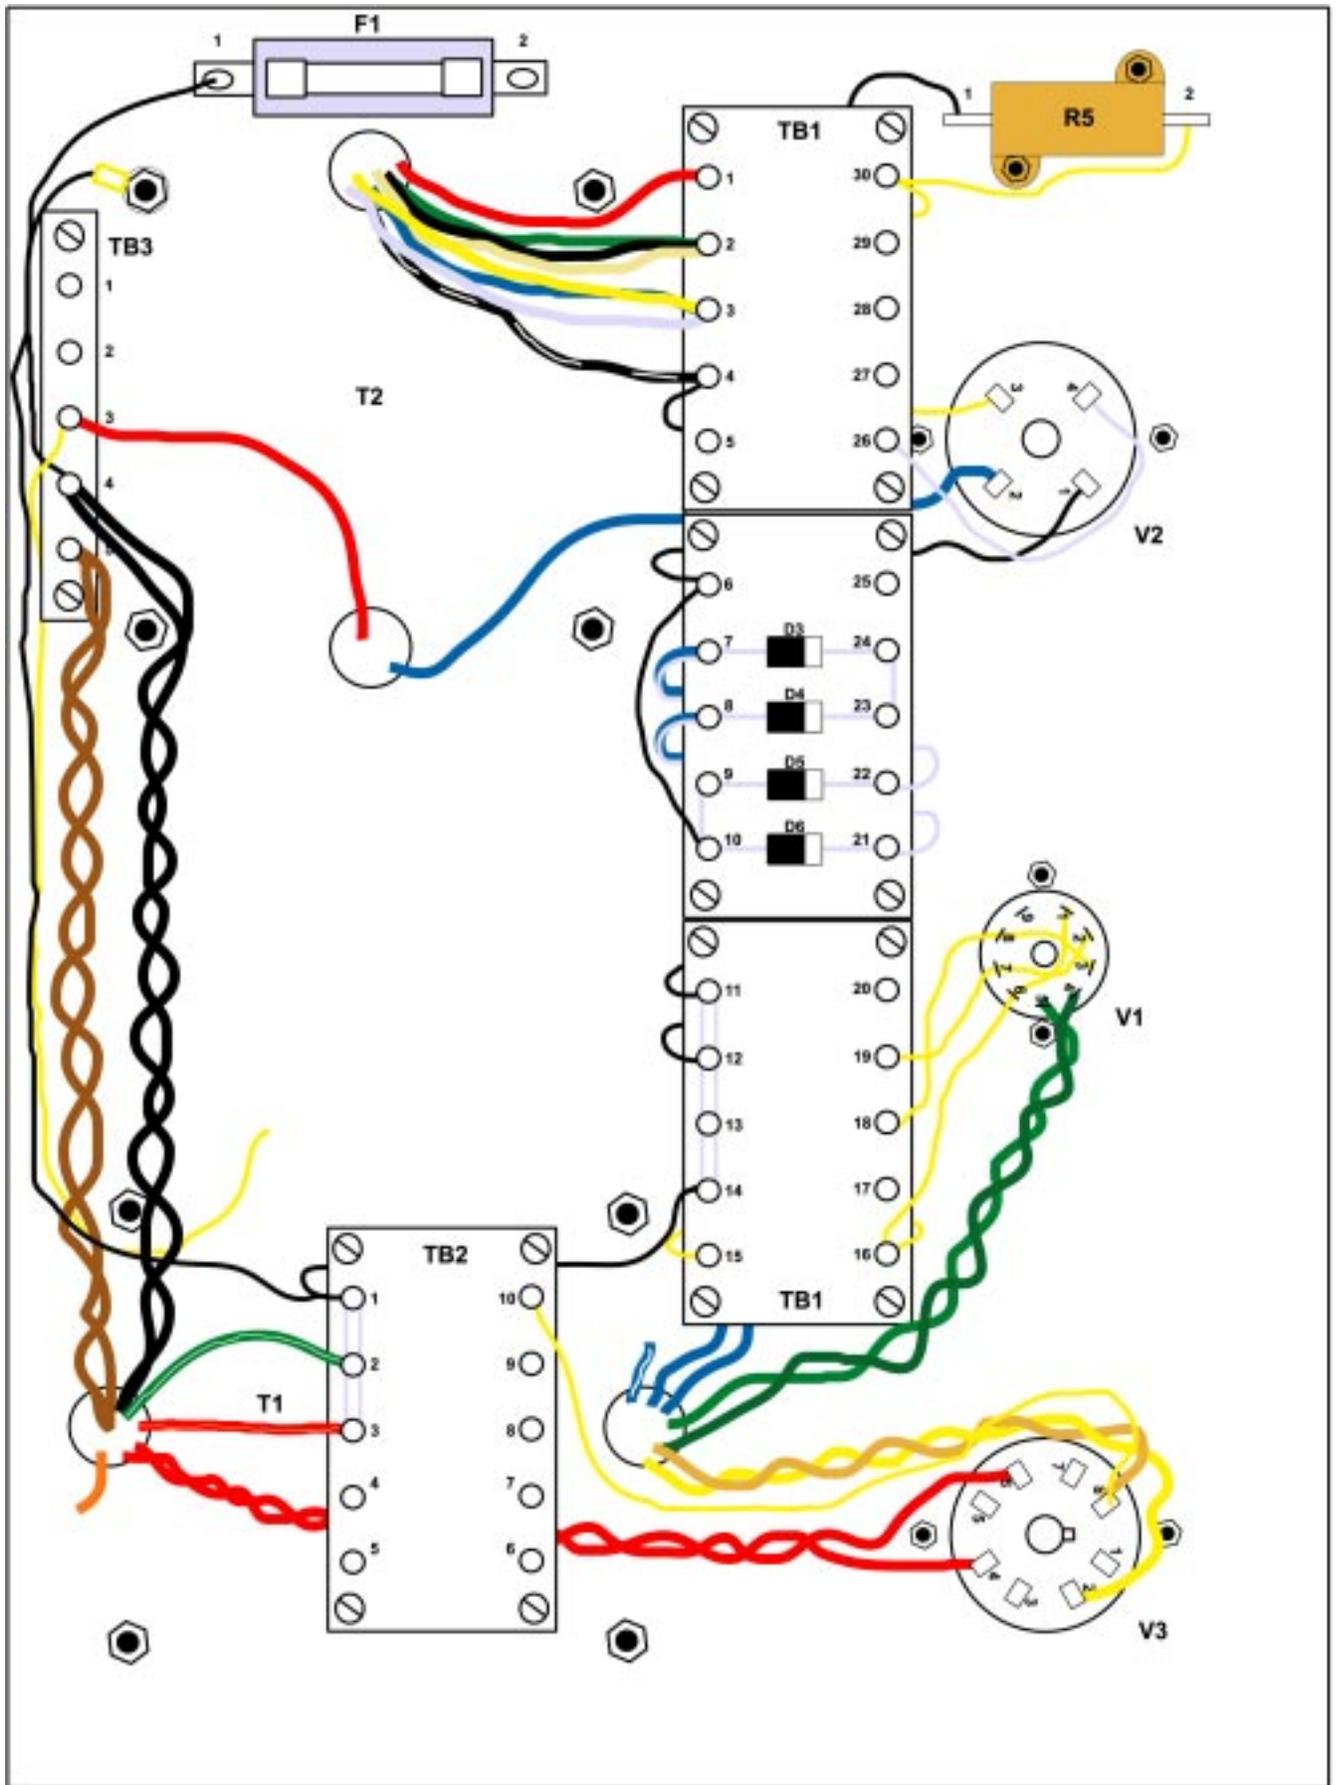

Figure 4
6) Locate the bag marked "D3,D4,D5,D6" and mount the diodes to TB1 as shown in figure 4. Note the polarity of the diodes when installing them. Install one diode between TB1-7 and TB1-24 leaving one lead long enough to wrap around and connect to TB1-23. Install the second diode between TB1-8 and TB1-23. Install the third diode between TB1-9 and TB1-22 leaving one lead long enough to wrap around and connect to TB1-10. Install the fourth diode between TB1-10 and TB1-21.
Cut a piece of yellow wire to length and solder between TB2-10 and V3-8 as shown in figure 4.
Cut a piece of the black hookup wire to length and solder one end to TB2-1 and the other end to TB1-14. Route the wire under TB2 as shown in figure 4.
Locate the bag marked "H/W1" and remove one ring terminal, a star washer and a brass nut. Cut a piece of the black wire to a length of approximately 10 inches. Solder one end of this wire to TB2-1 as shown in figure 4. Trim the wire to length and solder the ring terminal to the other end of this wire. You will now attach this ring to the transformer bolt as shown in figure 4. First remove the nut that secures the transformer mounting bolt. Install the star washer onto the bolt and then re-install the nut and tighten securely so that the star washer digs into the bottom of the aluminum plate. Now place the ring terminal onto the bolt and secure with the brass nut. Just finger tighten this nut for the time being. The ring terminal should now be sandwiched between the two brass nuts.
Cut a piece of the black hookup wire to length and solder one end to TB3-4 and the other end to F1-1 as shown in figure 4.
Cut a piece of the black hookup wire to length and solder one end to TB1-4 and the other end to TB1-12. Route the wire under terminal board TB1 as shown in figure 4.
Cut a piece of the black hookup wire to length and solder one end to R5-1 and the other end to TB1-11. Route the wire under terminal board TB1 as shown in figure 4.
Cut a piece of the black hookup wire to length and solder one end to TB1-6 and the other end to TB1-10. Route the wire as shown in figure 4.
Cut a piece of the black hookup wire to length and solder one end to V2-1 and the other end to TB1-6. Route the wire under terminal board TB1 as shown in figure 4.